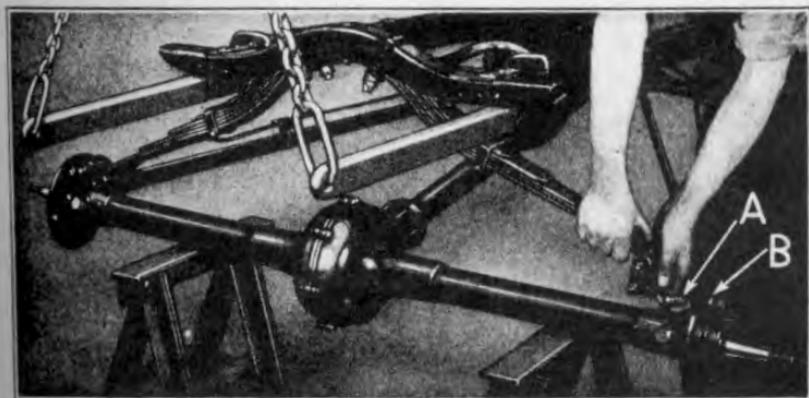

Fig. 68
- (a) Lift up rear end of frame with chain falls and lifting hooks and position axle on horses (See Fig. 68).